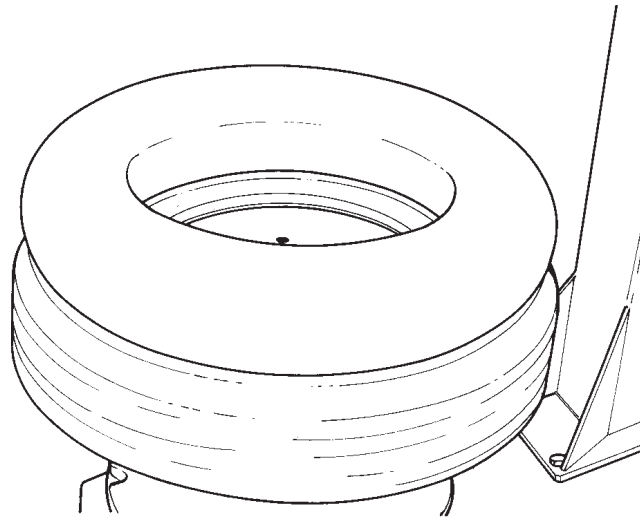

Fig.23
**B.** Confirm that the tube is the correct size for the tire to be mounted. (Fig.23).